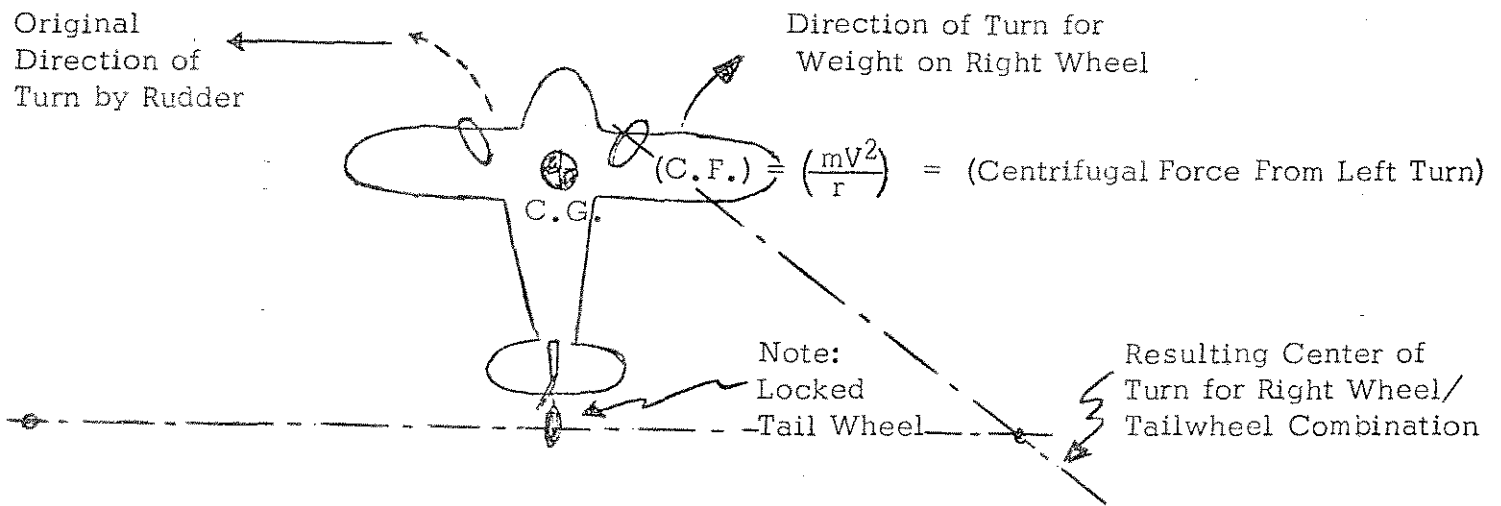

FIGURE 1. DETERMINING CENTER OF TURN
- (1) If the aircraft weight were only on the right wheel and the tail wheel, Figure 1, shows that toe-out would cause the airplane to turn to the right.
- (2) If the left rudder is pushed (or if something tries to turn the aircraft to the left) centrifugal force developed from the left turn will force more of the weight on the RIGHT wheel. This weight shift will cause the right wheel to have more traction and the left will have correspondingly less, and the aircraft will turn to the right as influenced by the turn radius as shown in Figure 1.
- (3) Once the aircraft starts to phase into a right turn, the centrifugal force will tend to shift the weight back to the left wheel, cancelling out the right turn effect.
- (4) Note that this action is stabilizing; i.e., it tends to oppose any force that would keep it from going in a straight line. (This is something like dihedral in wings, stabilizing the flight path.)
Because our printing set up is different from previous newsletter we won't be doing drawings that are adjacent to the printed copy. Sheets of photos and descriptive drawings will be added at the end of the newsletter, so if you need to refer to "Fig. 1" etc., just turn to the photo or drawing pages.